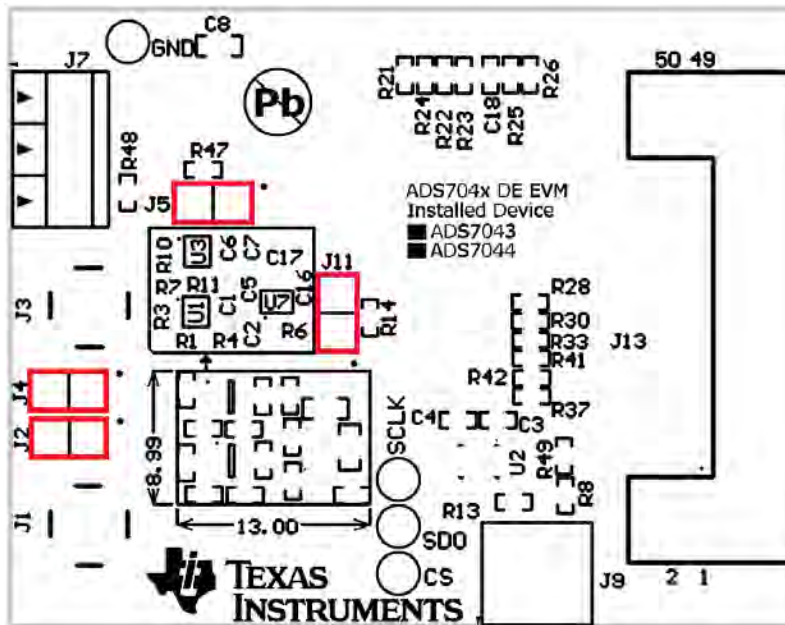

Figure 2. ADS7043EVM Default Jumper Settings
A silkscreen plot detailing the default jumper settings is shown in Figure 2.
- Step 1. Verify the ADS7043EVM jumpers are configured as shown in Figure 2.